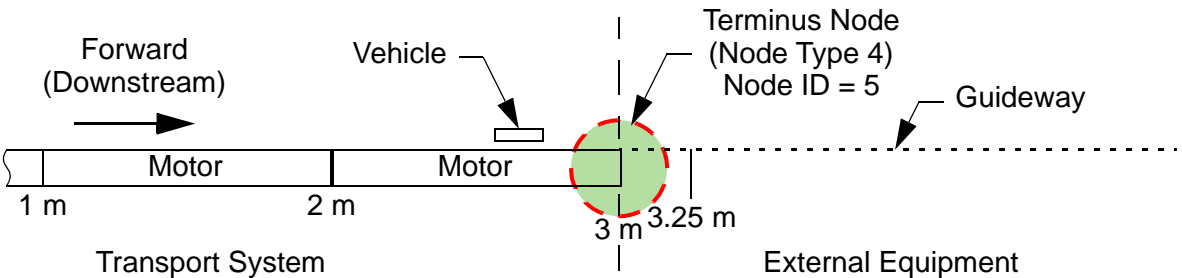

Figure 3-29: Terminus Node Exit Example
1. The host controller sets **EXIT_ALLOWED** High for the Terminus Node (see Figure 3-29) using the Set Signal command to signal that it is ready for a vehicle to exit. When high, this flag specifies space is available for a vehicle on the user-supplied equipment beyond the Terminus Node of a transport system.